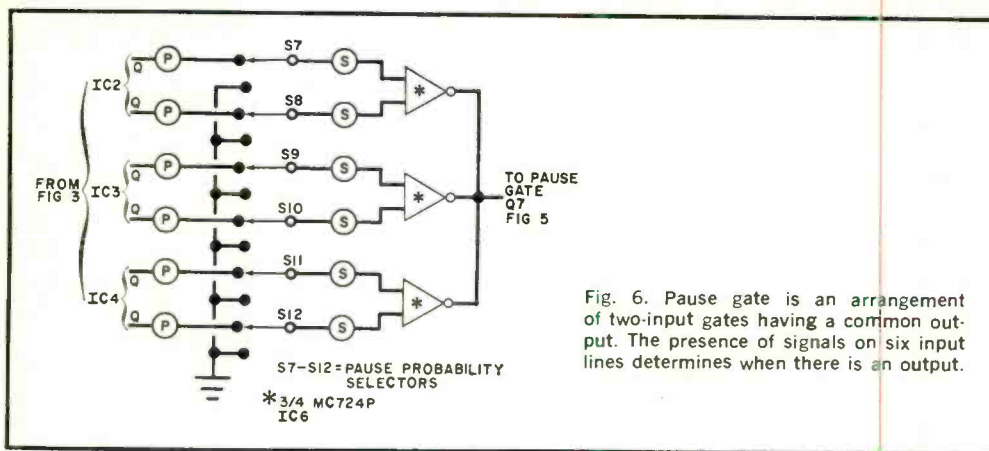

Fig. 6. Pause gate is an arrangement of two-input gates having a common output. The presence of signals on six input lines determines when there is an output.
**Pause Gate.** As shown in Fig. 6, the pause gate consists of three two-input gates ( $IC6$ ) arranged so that a logic 1 on any input allows the tones to be produced (through  $Q7$ ). The six inputs come through selector switches  $S7$